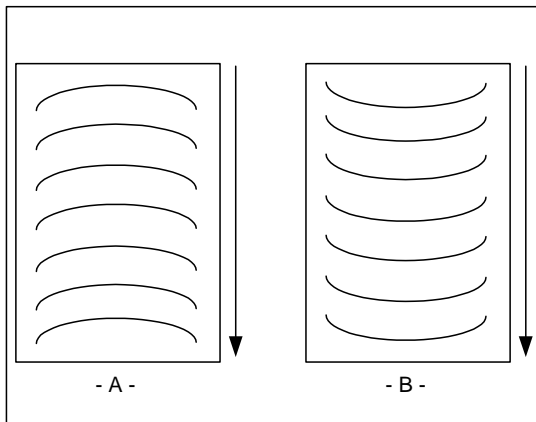

Figure 39
1. "D" waves in the image (Fig. 39 A).
2. "D" waves in the laminate (Fig. 39 B).